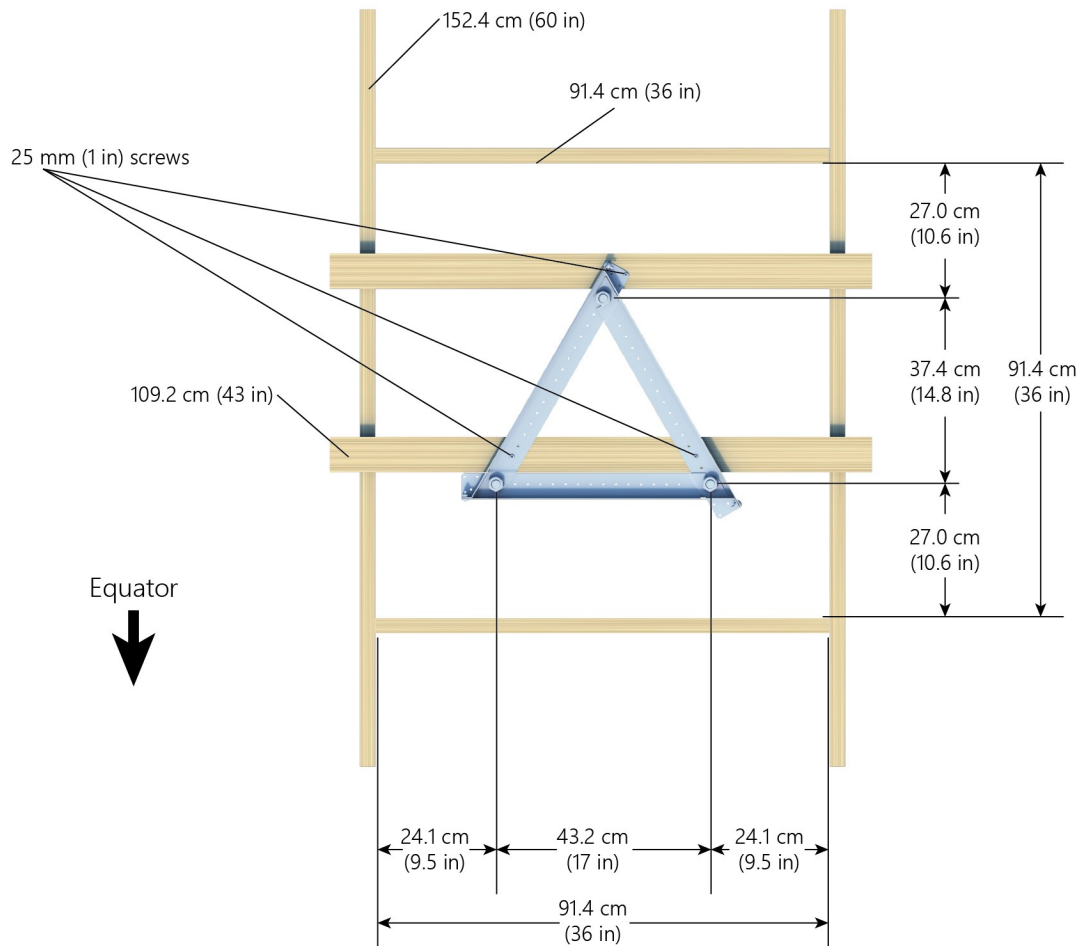

FIGURE 7-6. Concrete form and template frame dimensions
- Construct the concrete form out of 38 x 89 mm (2 x 4 in) lumber as shown in FIGURE 7-6 (p. 14). Use the two 109.2 cm (43 in) pieces of lumber to create the template support assembly, attaching them to the template as shown.
Place the template support assembly on the concrete form and adjust the position of the template to match the dimensions in FIGURE 7-6 (p. 14). Secure the template support assembly to the concrete form.
3. If using the concrete form, assemble the form as shown in FIGURE 7-6 (p. 14), then center the concrete form over the hole. Orient the concrete form so one side of the form faces the equator.